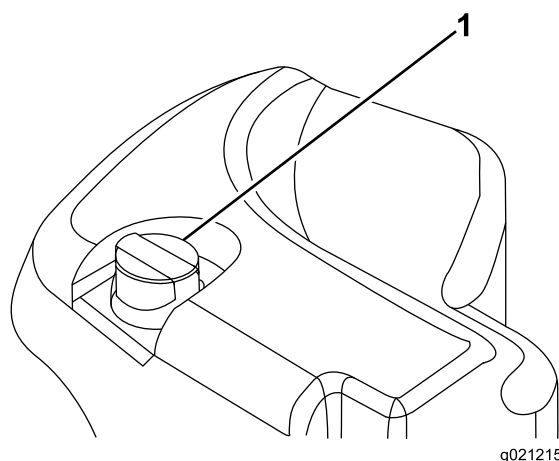

Figure 29
2. Clean area around filler neck and cap of hydraulic tank (Figure 29). Remove cap from filler neck.